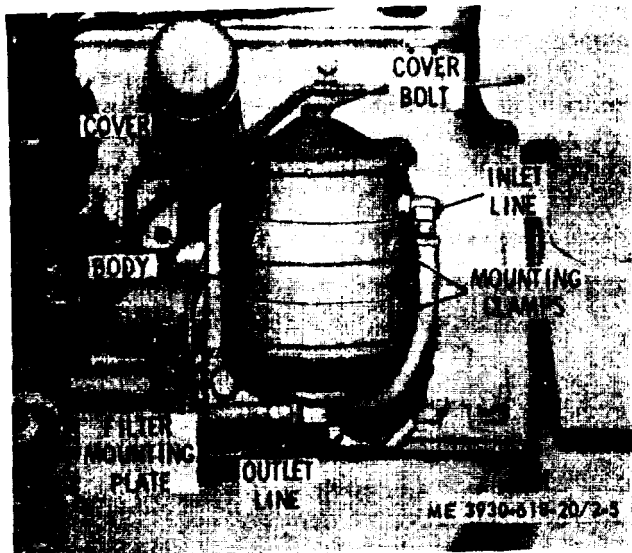

Figure 2-5. Engine oil filter, installed view.
*a. Removal.* Refer to figure 2-5 and remove as follows:
(1) Disconnect the oil outlet line at the bottom of the filter body and drain the oil from the filter body into a suitable container.
(2) Disconnect the oil inlet line and disconnect the electrical wire from the oil pressure sending unit.
(3) Loosen the clamp bolts and lift the assembly out of the clamps.